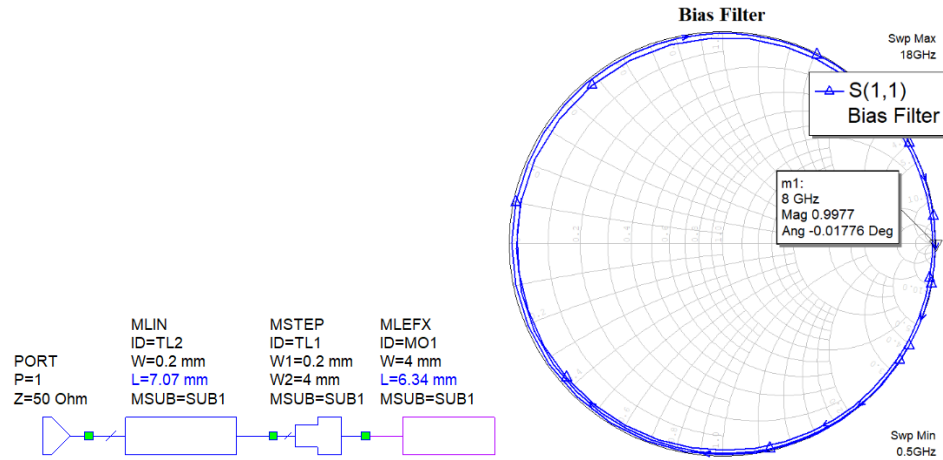

Fig. 10 Bias filter schematic and its reflection coefficient corresponding to an infinite impedance at  $f_0$ .
- Add discontinuity MSTEP and MLIN with  $W = 0.2$  mm and length  $\lambda_g/4$ . Tune TL2's length to produce an open circuit at the design frequency as shown in Fig. 10.